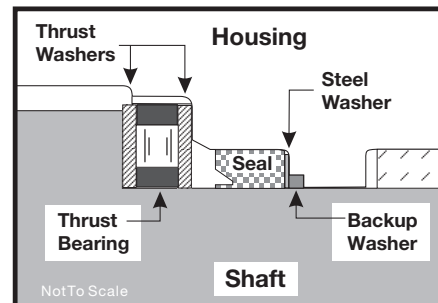

Figure 60
- Assemble backup washer & seal** 6. A housing (18) that did not require replacement of the bearing package will require that the two “captured” thrust washers (14) and thrust bearing (15) be unseated and vertical to the counterbore and the **new** backup ring (17), **new** backup washer (25), and **new** seal (16) be worked around the thrust bearing package and placed into their respective counterbores. The seal lip must face out of the seal counterbore and toward the inside of Torqmotor™ (see figure 60). Be sure the thrust bearing package is resealed correctly after assembly of the seal and backup washer. SEE FIGURES 35 & 36.
**CAUTION: Original design TF & TG Torqmotors™ that do not have backup washer (25) when disassembled must be assembled with a new backup ring (17), new backup washer (25), and new seal (16).**